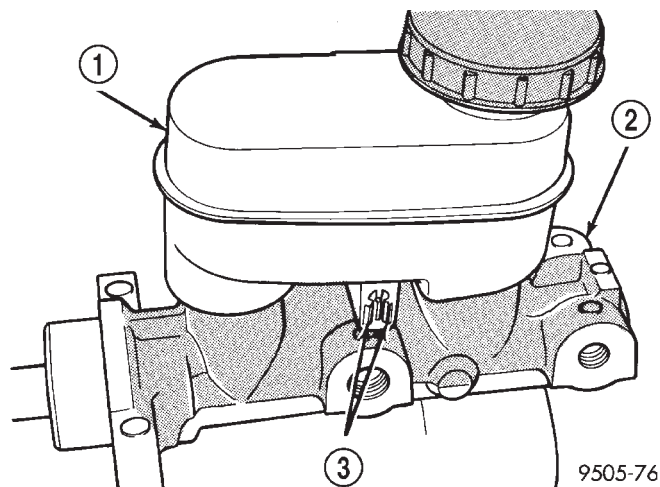

Fig. 60 Brake Fluid Level Switch Retaining Tabs
(2) Compress the retaining tabs (Fig. 60) on the end of the brake fluid level sensor.